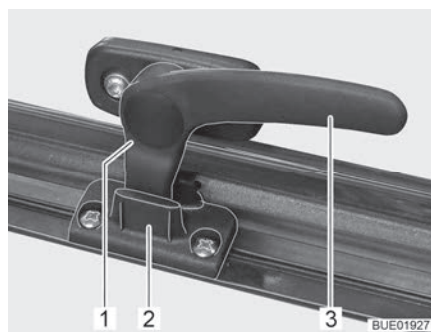

Fig. 13 Catch lever in "continuous ventilation" position
- "Continuous ventilation" (Fig. 13)
- Turn the catch lever (Fig. 13,3) a quarter turn towards the centre of the window.
- Turn the catch lever a quarter turn towards the window frame. The locking catch (Fig. 13,1) has to be moved into the recess of window catch (Fig. 13,2).